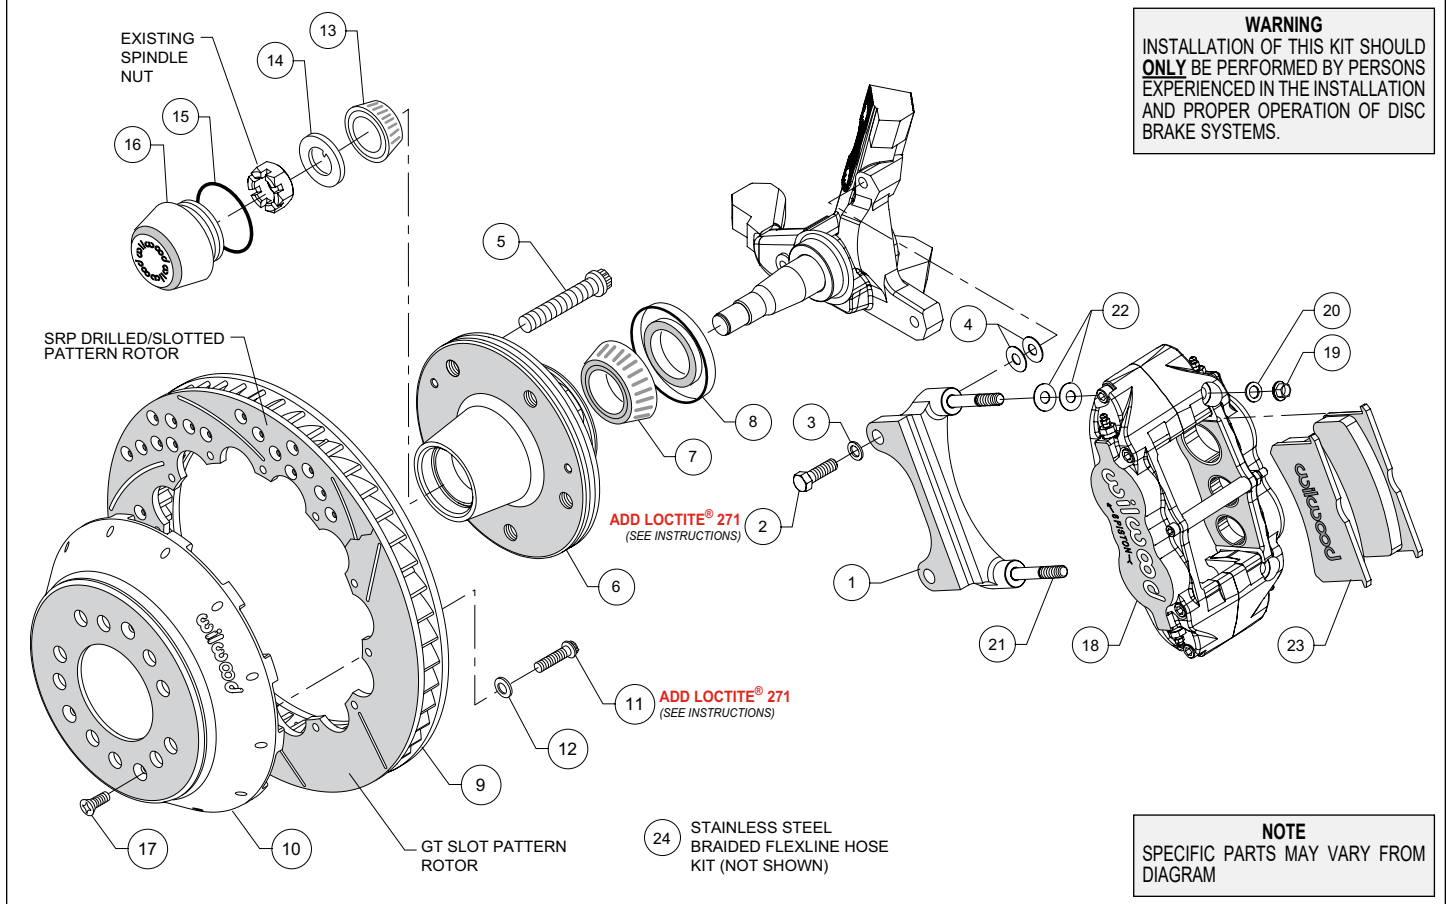

Figure 2. Typical Installation Configuration
NOTE: Numbers in parenthesis refer to the parts list and Figure 2 on the preceding pages.
- The caliper mount bracket (1) should initially be installed with clean, dry threads on the mounting bolts. Orient the bracket as shown in Figure 2 and Photo 1, and install using bolts (2) and washers (3). Initially place two .033" thick shims (4) on each bolt between the bracket and upright, Figure 2 and Photo 1. Temporarily tighten the mounting bolts. **NOTE:** The bracket must fit squarely against the mount bosses on the upright. Inspect for interference from casting irregularities, machining ridges, burrs, etc. Later, after the caliper alignment has been checked, the mount bolts will be secured using red Loctite® 271.
- Install wheel studs (5) into the hub (6), Photo 2. Torque to 77 ft-lb.
- Pack the large inner bearing cone (7) with high temperature disc brake bearing grease (available from your local auto parts store) and install into the backside of the hub (6), Photo 3.